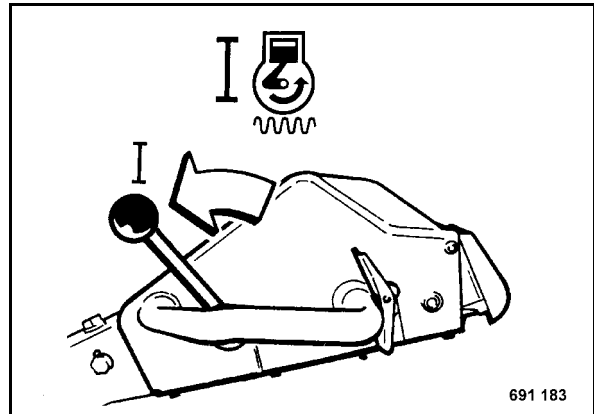

Fig. 26
- Set the throttle lever (Fig. 26) to vibration step 1.